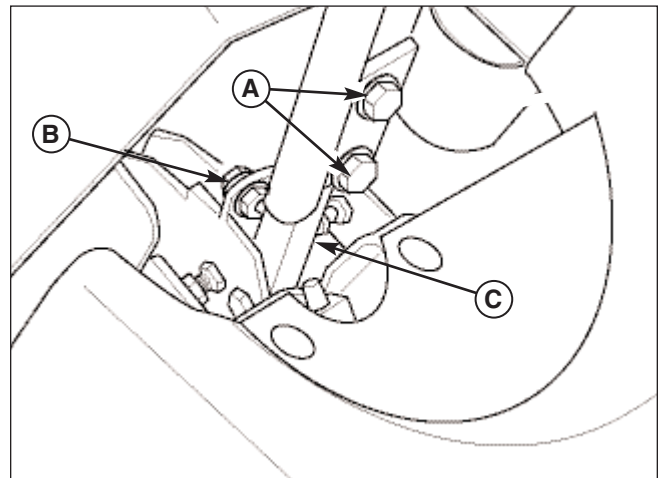

Figure 29. Control Lever Adjustment
Loosen the mount bolts (A, Figure 29) and pivot the lever(s) (C) to align with each other.
Loosen the jam nuts and adjust the placement bolt (B, Figure 29) in or out to properly adjust the lever end spacing.